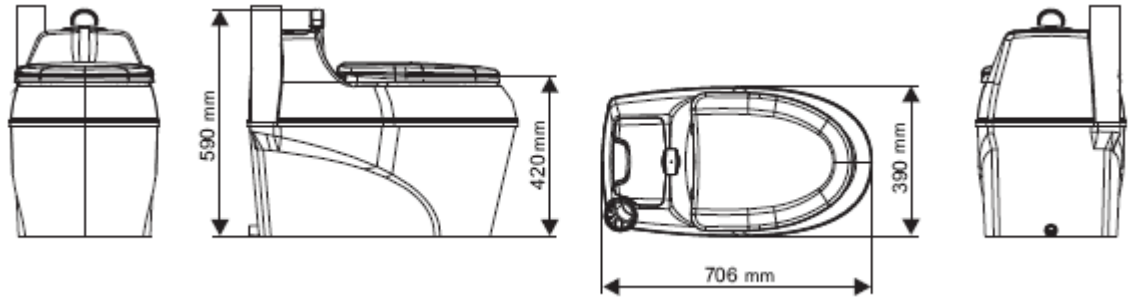

Figure 2.
Overall dimensions of the toilet are presented on Figure 2.
- Overall dimensions (L x W x H, Fig. 2) – 706 x 390 x 590 mm
- Seat height (Fig. 2) – 420 mm